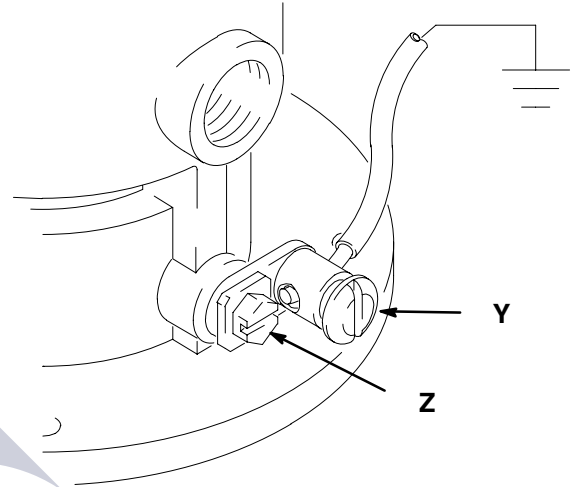

Fig. 2
1. *Pump:* Use a ground wire and clamp as shown in Fig. 2.
**To ground the pump,** remove the ground screw (Z) and insert through the eye of the ring terminal at end of the ground wire (Y). Fasten the ground screw back onto the pump and tighten securely. Connect the other end of the ground wire to a true earth ground. See Fig. 2. *To order a ground wire and clamp, order Part No. 222011.*